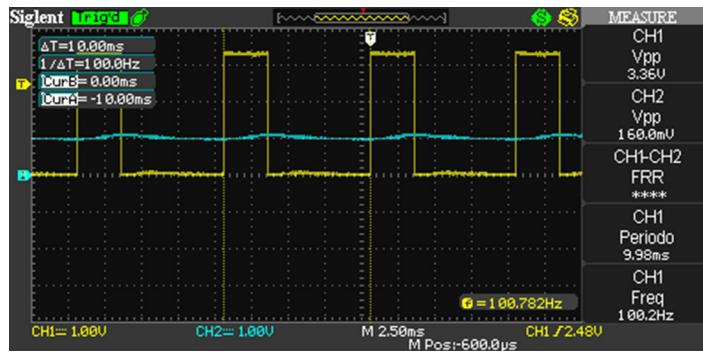

Figure 11.27: The effect of a low-pass filter with cut-off frequency equal to 3.7Hz
**Figure 11.27** shows the effect of the low-pass filter with a 4300K resistor and a  $10\mu F$  capacitor. This means that the cut-off frequency is equal to: